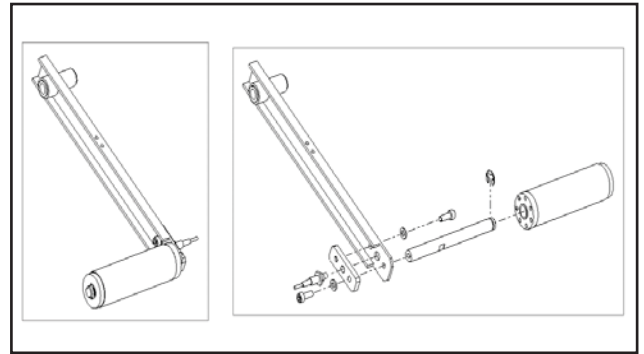

Figure 2-13
- 5) Remove the e-ring, roller, shaft, sensor and bracket to position on correct side as illustrated in **Figure 2-13**.